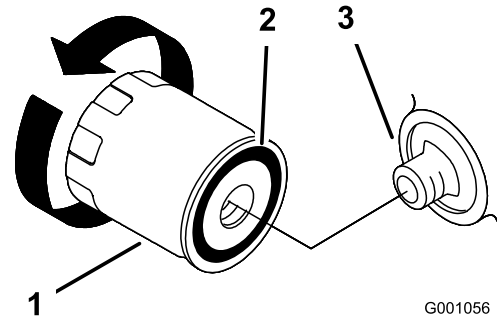

Figure 19
2. Remove the old filter and wipe the filler adapter gasket surface (Figure 19).
3. Apply a thin coat of new oil to the rubber gasket on the replacement filter (Figure 19).
4. Install the replacement oil filter to the filter adapter, turn the oil filter clockwise until the rubber gasket contacts the filter adapter, then tighten the filter an additional 2/3 to 1 turn (Figure 19).